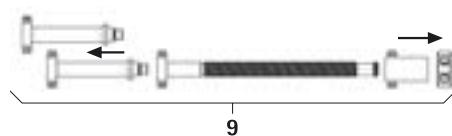

Fig. 4
- Dismount spindle distractor 9, see Fig. 4.